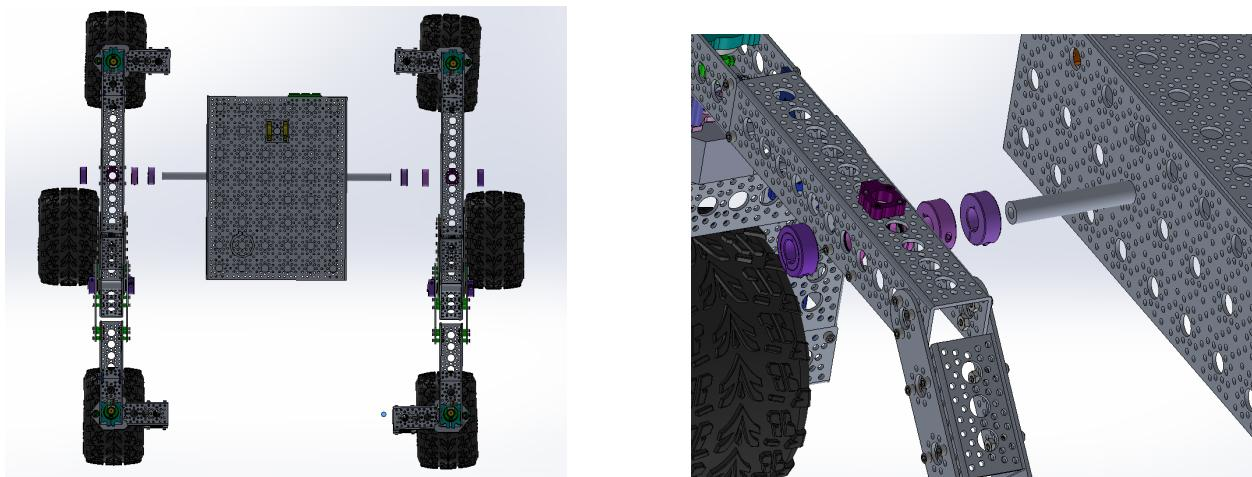

Figure 7: Mounting Body to Rocker-Bogie
5. Mount the main body of the rover to the two separate rocker-bogie legs using 15 inch aluminum rod **S16A** and collar clamps **S22** as shown in Figure 7. Make sure to maintain the order of the collar clamps shown in Figure 7 to fully lock all assemblies along the rod. The rod will go through the pillow blocks on each rocker-bogie leg, and it should pass through the 4th from the back and 2nd up hole on the body as shown in Figure 7.